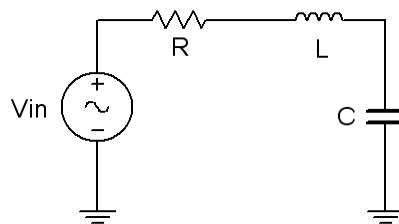

Figure 6.3
8. Using Figure 6.3 with both the 10 nF capacitor and 10 mH inductor, repeat steps 1 through 6 in similar manner, using Tables 6.5 and 6.6. **Using a four channel oscilloscope:** To obtain proper readings, place the first probe at the input, the second probe between the resistor and inductor, and the third probe between the inductor and capacitor. Probe three yields  $V_C$ . Using the *Math* function, probe two minus probe three yields  $V_L$ , and finally, probe one minus probe two yields  $V_R$ . Assigning *Reference* waveforms can be useful to see all of the signals together. **Using a two channel oscilloscope:** Unfortunately, it will be impossible to see the voltage of all three components simultaneously with the source voltage using a two channel oscilloscope. To obtain proper readings, place the first probe at the input and the second probe across the capacitor in order to see the phase and magnitude of  $V_C$ . Then, swap C and L (placing the second probe across the inductor) to see  $V_L$ , and finally, swap L and R (with the second probe across R) in order see  $V_R$ .